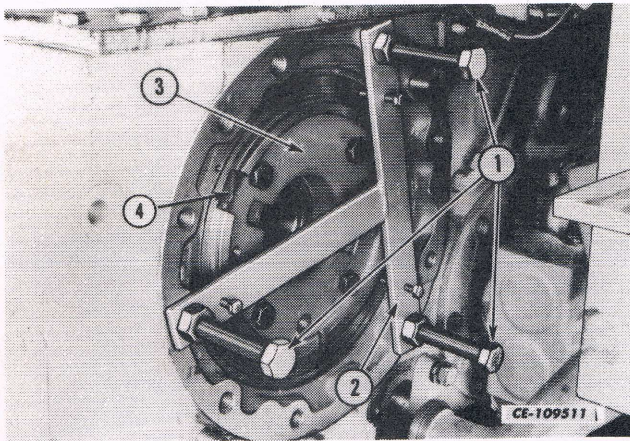

Fig. 6
2. To aid in installing the brake piston and eliminate cocking of the piston and damaging the "O" ring, the PLT-700-7 brake piston installing tool (2) should be used. See Fig. 6.
3. Using three of the 5/8" hex bolts used for installing the axle housing, install the PLT-700-7 tool (2) as shown in Fig. 6.